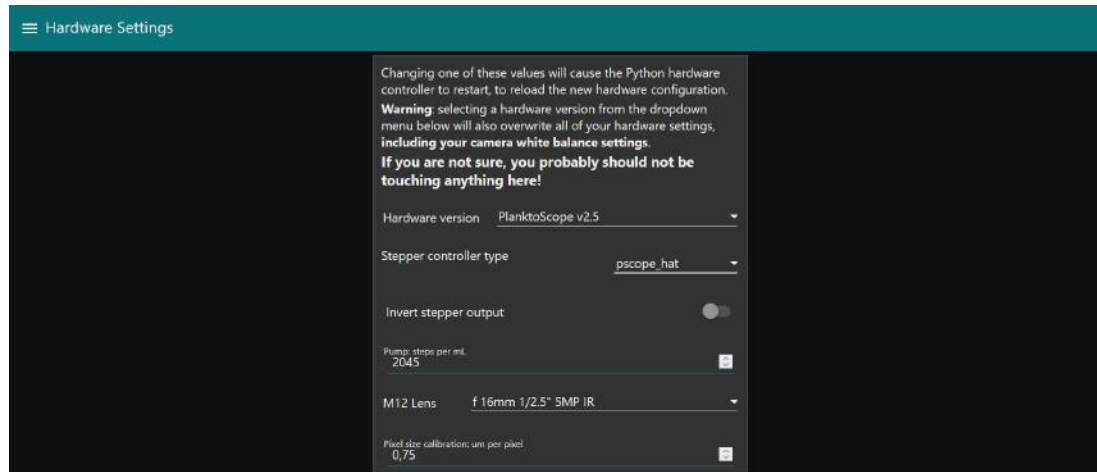

Figure 2: Example of Hardware Settings
1. Go to the "Hardware Settings" tab (Fig.2)